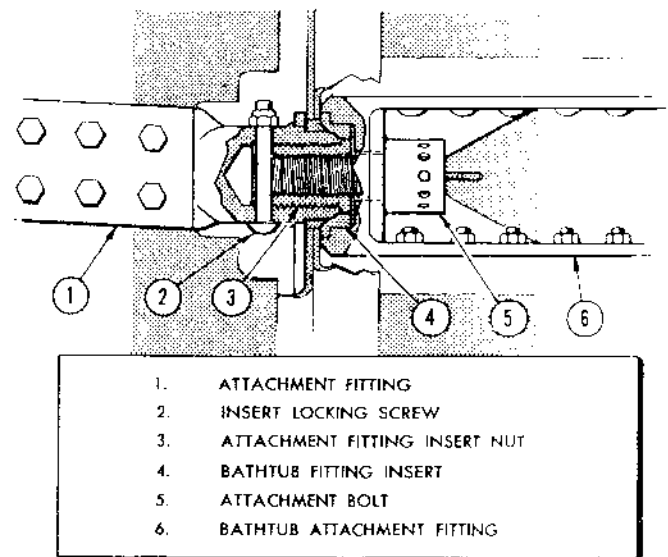

Figure 60 — Aft Section to Mid Section Attachment
(1) DESCRIPTION. (See figures 60 and 61.)—The fuselage aft section, which extends from station 277 to station 430, supports the empennage and provides
(c) Inspect the attachment fitting insert nut and the attachment fitting (figure 60) as outlined under Fuselage in section X.